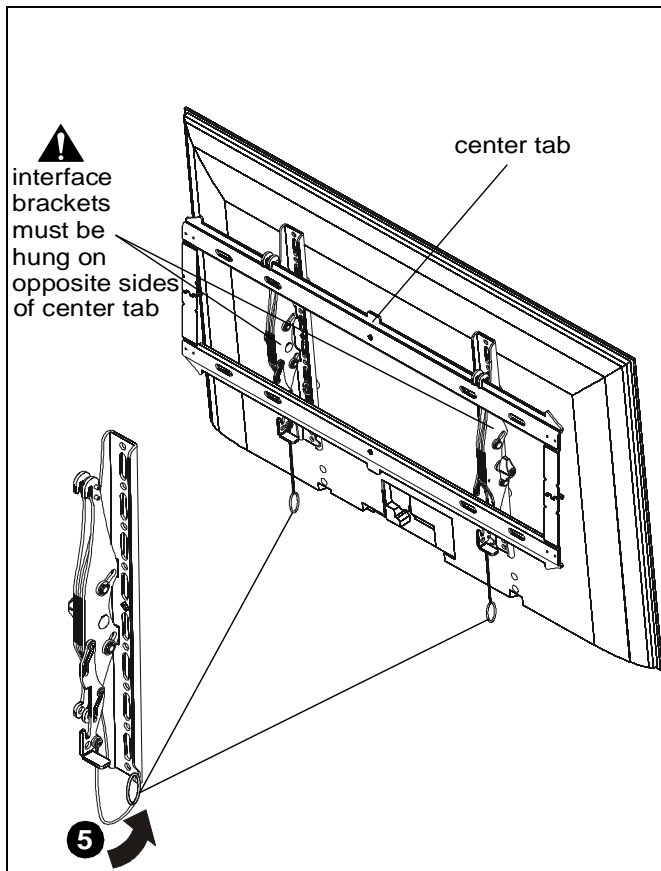

Figure 9
WARNING: Interface brackets must be hung on opposite sides of the center tab on wall plate! (See Figure 9)
5. Straps can be tucked behind display on notch on interface brackets (B and C) after installation is complete so that they will not be visible to the viewer. (See Figure 9)